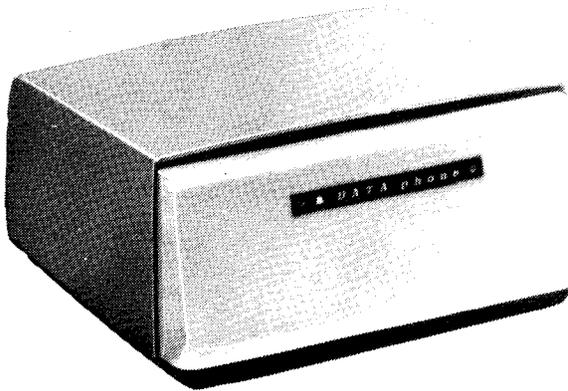

Figure 8 - Data Set 103H
2.26 The standard data set for 37 TTY DATA-PHONE service is Data Set 103H (Figure 8). This data set is a general purpose, full duplex, frequency shift keyed, serial